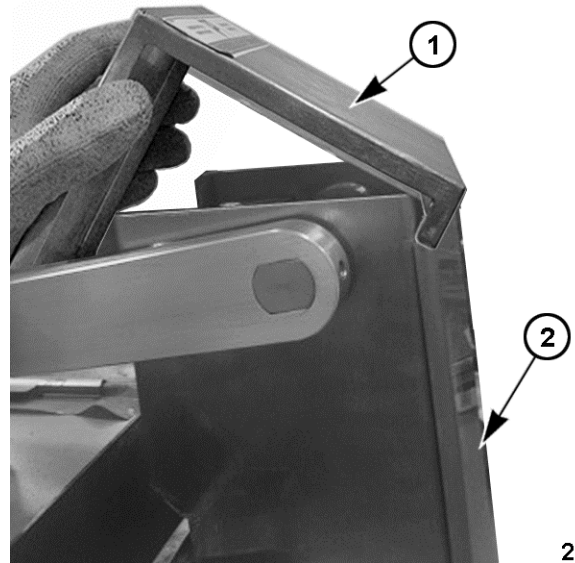

Fig. 3
3. Remove rear housing lid (1, Fig. 3) and rear cover (2, Fig. 3).